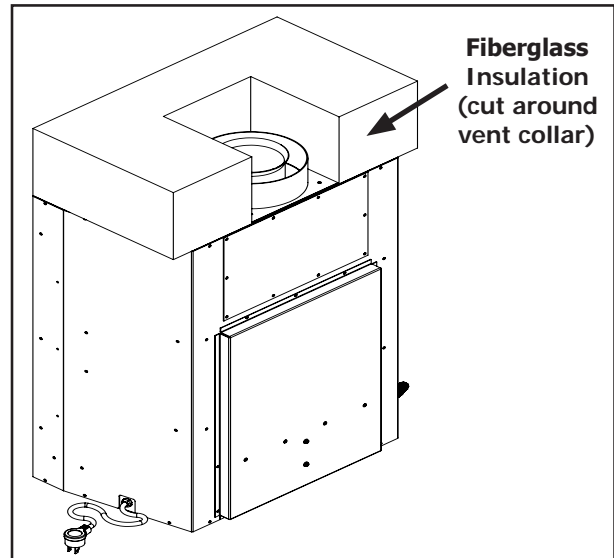

Figure 20. Unit Insulation - Top Vent
**Top Vent:** When using the top vent configuration only the fiberglass insulation is required. Cut a notch in the insulation, to fit around the vent collar, and place on top of the unit as shown in Figure 20.